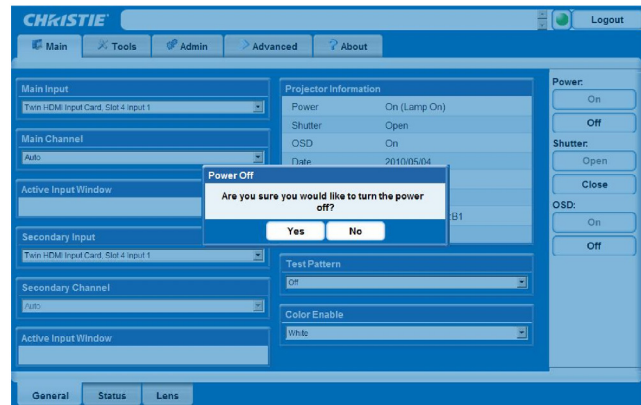

FIGURE 2-14 POWERING DOWN/WEB USER INTERFACE
- From the **Main** Tab, Select **Power>OFF**. **NOTE:** A window will display for confirmation on powering down, see Figure 2-14.